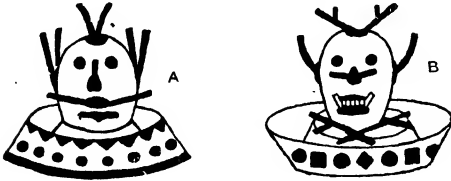
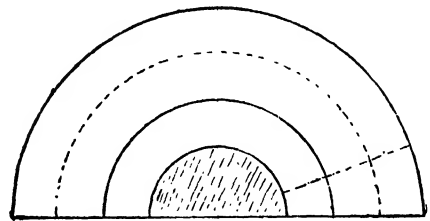

Fig. 239.—Eggshell Trinket-holders.
Fig. 240.—Cutting Cardboard Circular Tray.
**Toilet Table Requisites.**—Something more useful is shown by A and B (Fig. 239), which represent toilet-table requisites for holding
jewellery, pins, etc. Fig. 240 shows how to cut the cardboard foundation. The small semicircle has a radius of  $1\frac{1}{2}$  in., the second  $2\frac{1}{2}$  in., the third  $3\frac{1}{2}$  in., and the fourth  $4\frac{1}{2}$  in. Cut out the large semicircle, remove the shaded small half-circle, score the dotted semicircle on the underside and the smaller one on the top side. Twist the ends round, overlapping as far as the dotted line, and glue them firmly together. The cardboard will bend at the scored lines in reverse directions, forming a circular tray, which can be used either side up, as illustrated by Fig. 239. Fix the shell into the small opening with sealing wax, as in A (Fig. 239), or turn the tray over, and glue twigs crossways to make a support, as B (Fig. 239). Attach slips of wood or wire for horns, ears, nose, moustaches, and fangs, whereon trinkets may be suspended, and ornament the tray to give a satisfactory finish.